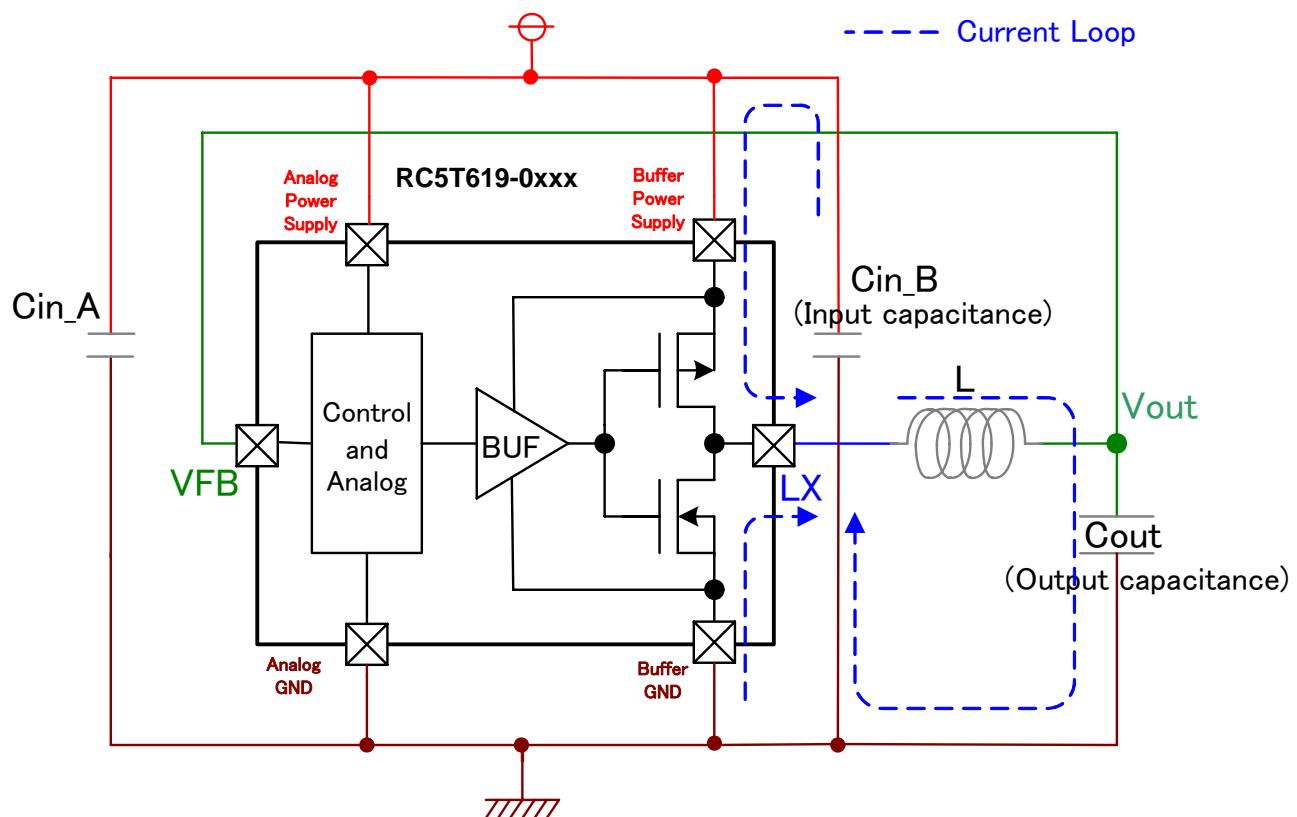
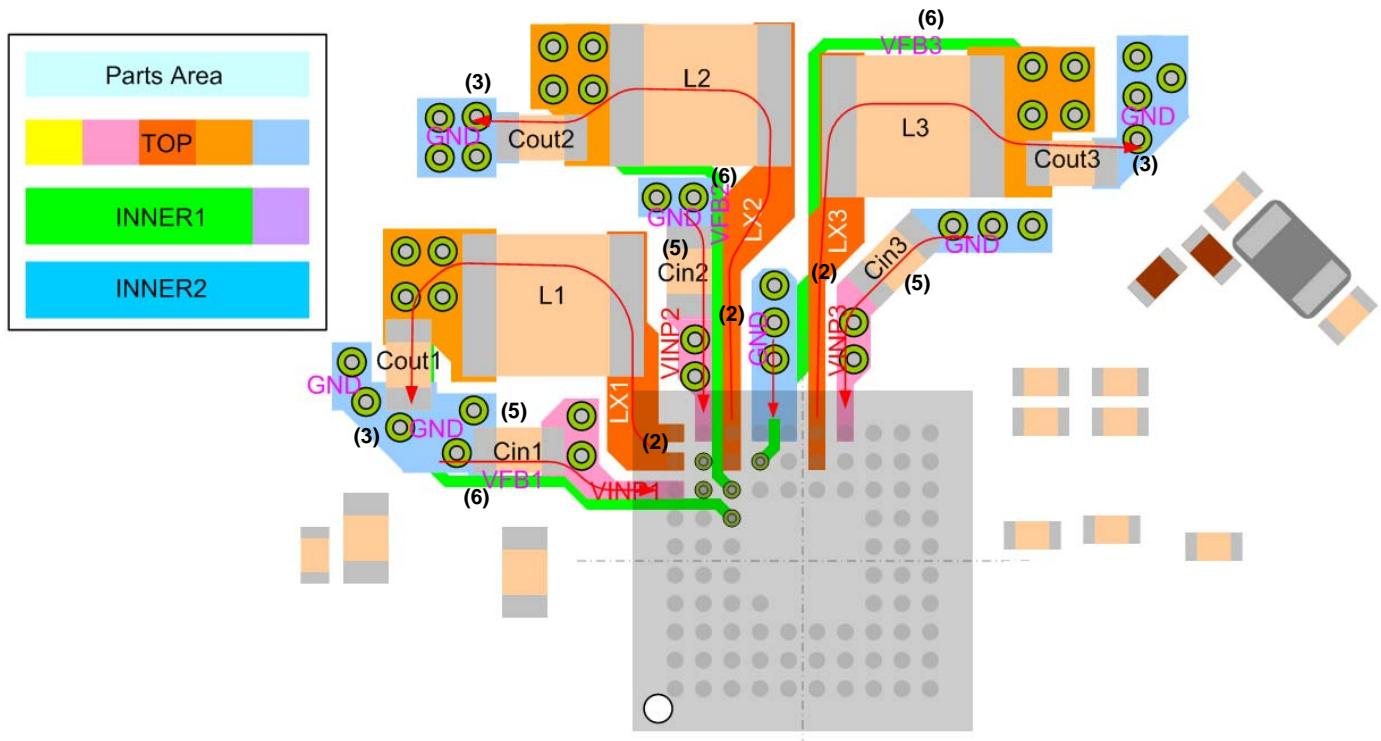

Fig. 1-1: Simplified Schematic for DCDC1, DCDC2, DCDC3, DCDC4 and DCDC5
Fig. 1-2: Example of DCDC Block Board Pattern
- (1) Place the parts to minimize the switching current loop (Figure 1-1: blue line, Figure 1-2: red line).
- (2) Route the LX line as short and wide as possible between RC5T619-0xxx and an inductor, and prohibit adding other redundant lines on it.
- (3) Connect the ground line of "Cout" directly to the internal ground plane with multiple vias, in order to reduce impedance as small as possible. (Target: 50mΩ or less)
- (4) Pull out the output of DCDC from near not "L" but "Cout".
- (5) Place "Cin" as close as possible to RC5T619-0xxx.